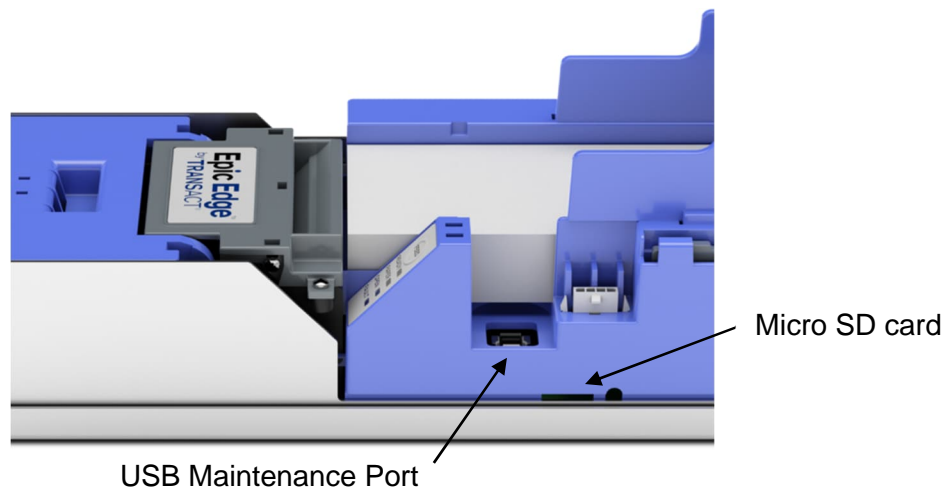

Figure 15. Firmware Update Ports.
- Align the base of the Inner Chassis with the outer walls of the Outer Chassis, seating it within side walls A and B as shown in Figure 15